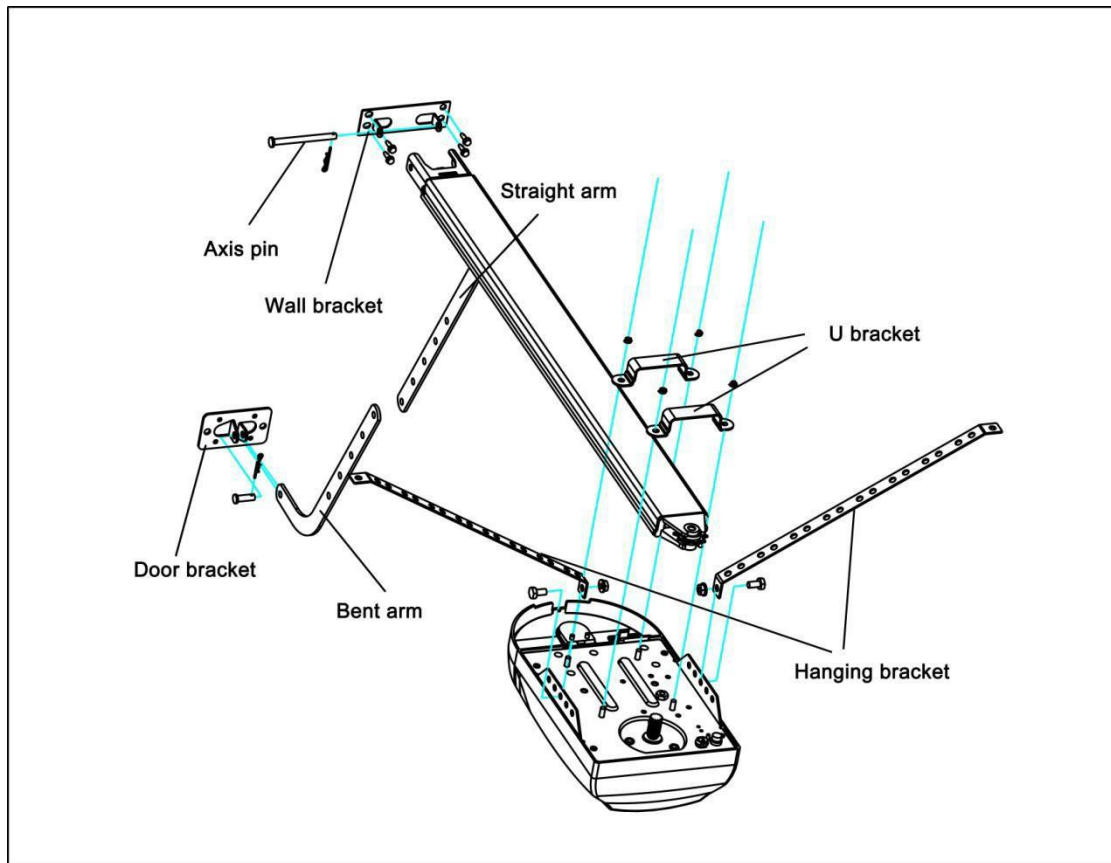

Fig. 6
2. Fix the steel track to the wall bracket with axis pin. (Fig. 6)